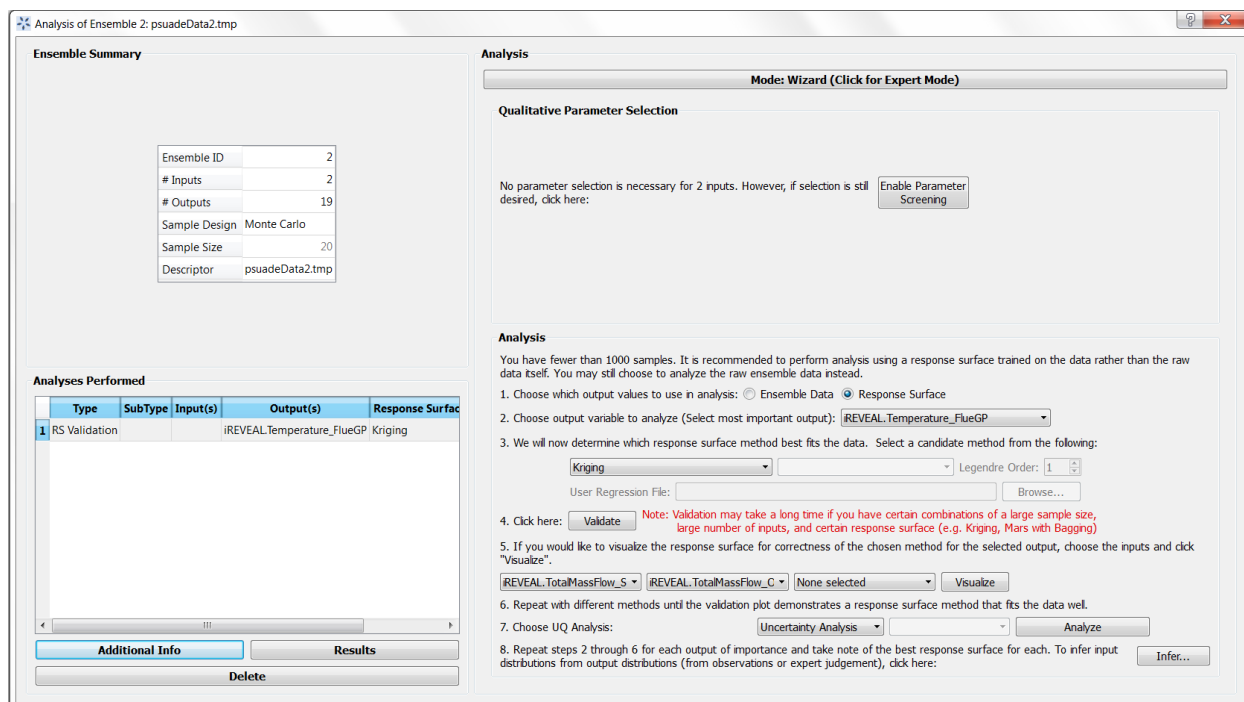

Figure 14: Visualize Response Surface: Analyze Ensemble
7. In the “Analysis” section under the “Analysis” frame, select the appropriate output parameters (Item 2) and response surface method (Item 3) as shown in Figure 14. For this tutorial, choose flue gas temperature “iREVEAL.Temperature_FlueGP” as output variable and choose “Kriging” as response surface method. Note: The implementation of “User Regression” to perform user selected response surface method is a work in progress.